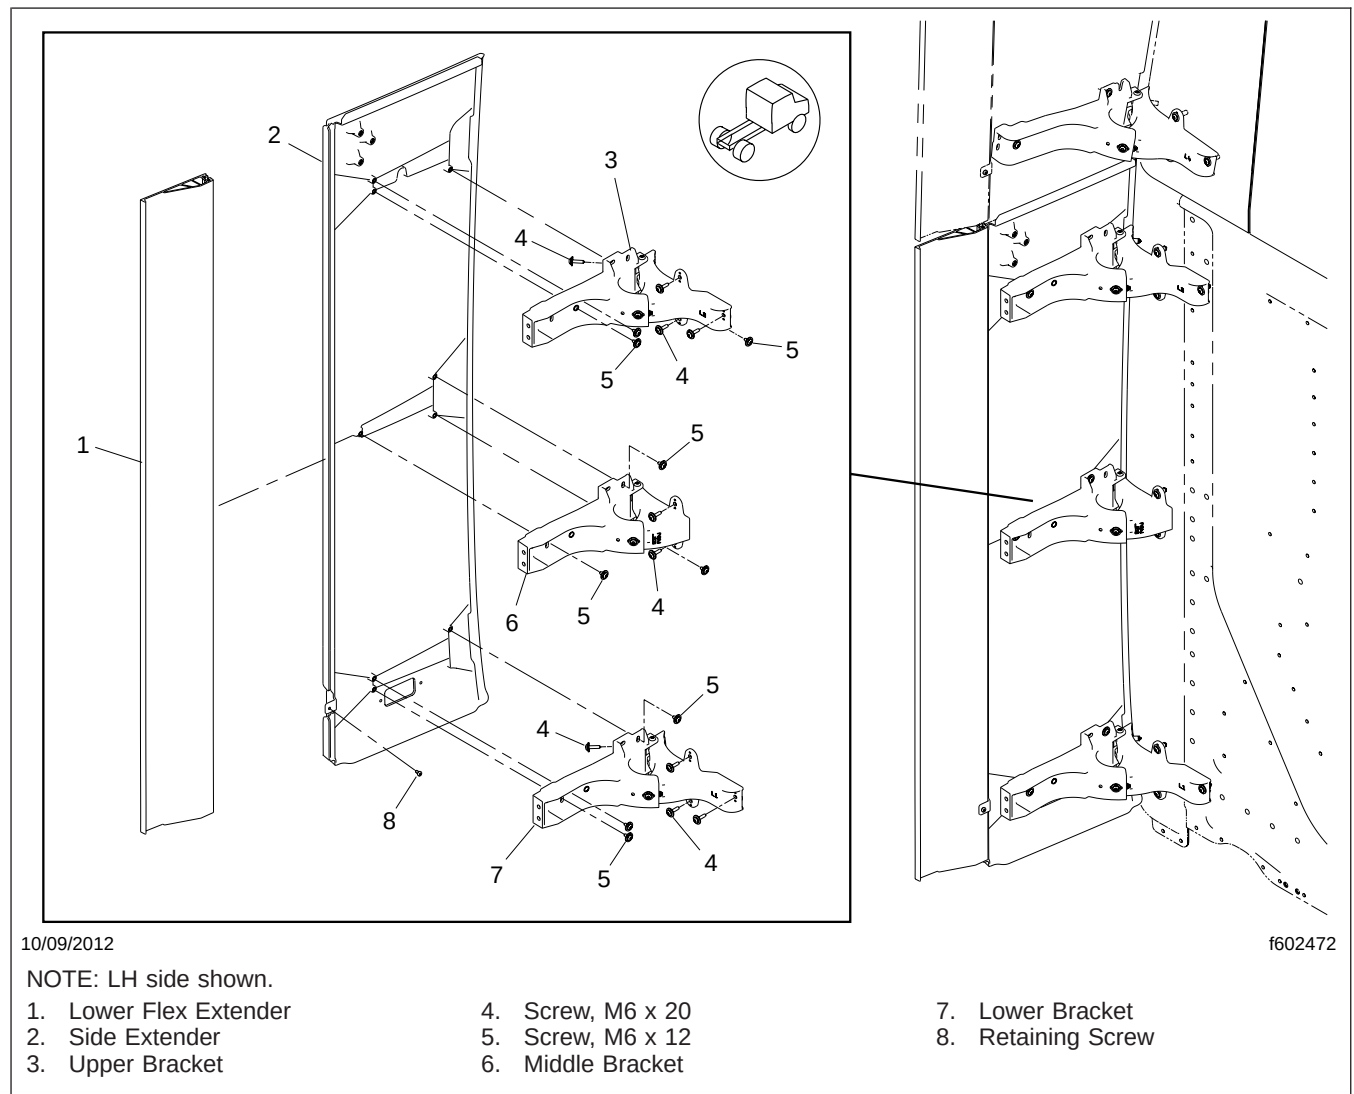

Fig. 1, 20-Inch Side Extender Installation
8. Attach the exterior utility lamp (Fig. 1) to the side extender with the bolts, nuts, and washers.
2. If it is necessary to remove the lower flex extender, remove the retaining screw (Fig. 1, item 8) near the lower bracket, then remove the flex extender; see Subject 100.